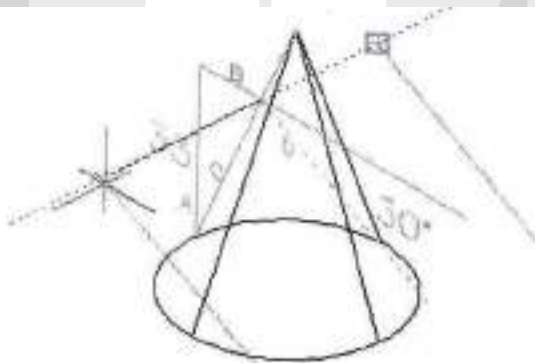

Figure 3
3. Use the COPY Command to copy the line "D" to both sides with the approximate distance as shown in figure 3.